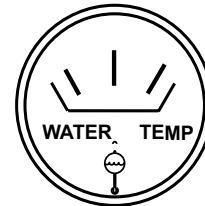

Figure 58. Coolant Temperature Gauge
15. The coolant temperature gauge (Figure 58) will indicate the coolant temperature. Under normal operating conditions the coolant temperature should be between 105 and 215 degrees fahrenheit (Green Zone).